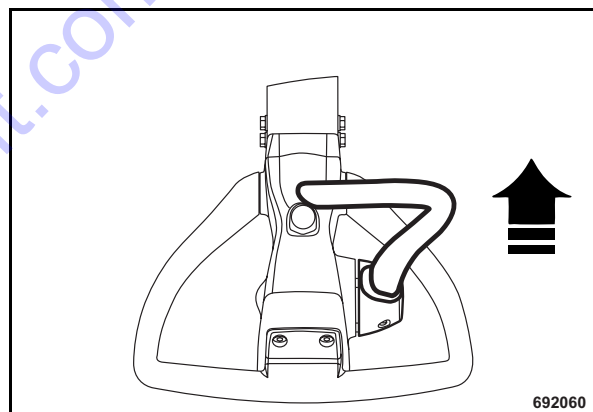

Fig. 77
- Shift the travel lever forward against the stop (Fig. 77).